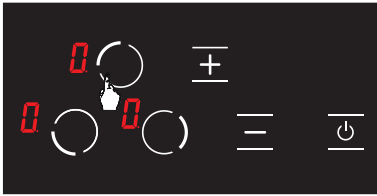

Figure 19
2. Press the upper left hob selection key ( **L** ) again. (See Fig. 19)